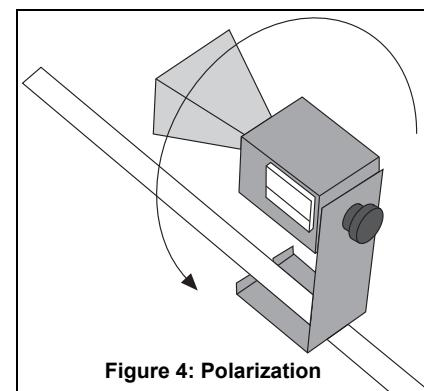

Figure 4: Polarization
7. Loosen the hand screw on the back of the Receiver and rotate the Receiver as shown in Figure 4. This varies the polarity of maximum detection. (Look into the receiver horn and notice the alignment of the detector diode.) Observe the meter readings through a full 360 degree rotation of the horn. A small mirror may be helpful to view the meter reading as the receiver is turned. At what polarity does the Receiver detect no signal?